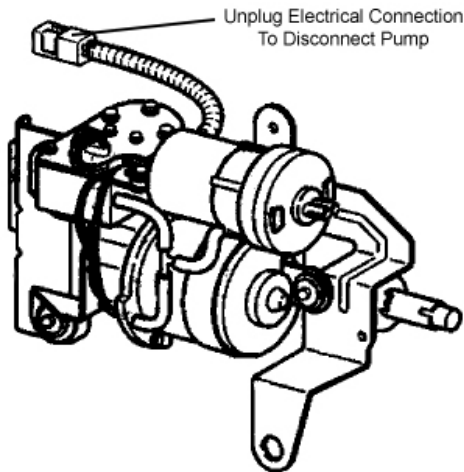

Figure 3
- c) (FIG 3) Disconnect the two wire plug to eliminate electrical input. The wires connectors should be taped to protect from contamination, if desired to reuse. This is provided the pump is still operational.